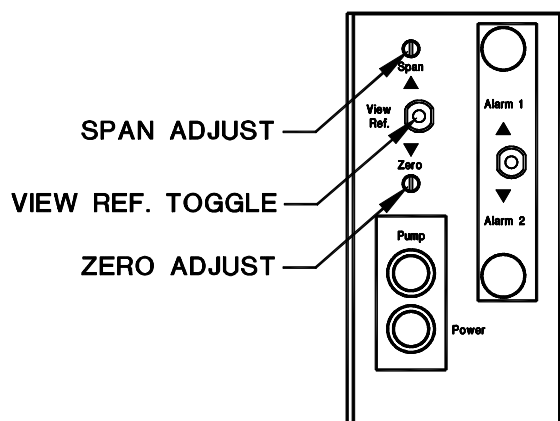

Figure 20: Calibration Controls
2. Locate the View Ref. toggle switch. See Figure 20